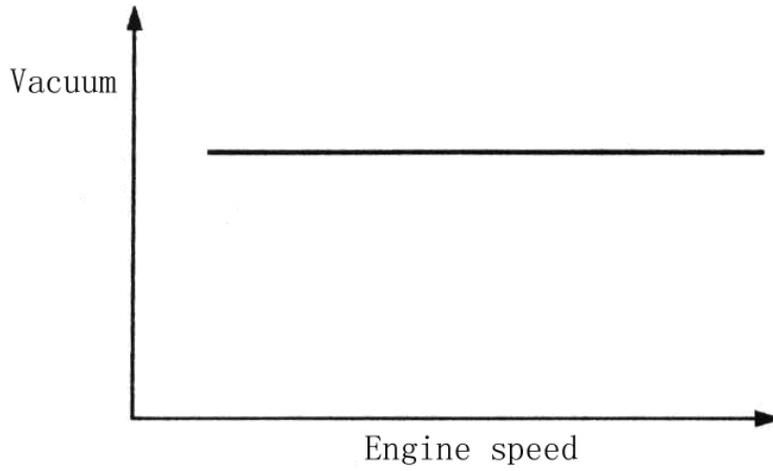

Fig. 10-11
• Start the engine, and check that the vacuum remains fairly constant after racing the engine. If vacuum changes, it is possible that the throttle body purge port may be clogged and require cleaning, see Fig.10-11 .